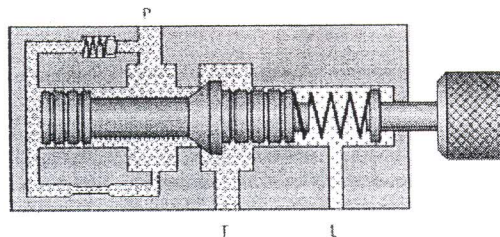

Figure 5
- (v) Describe the operation of pressure relieve valve. (Figure 5)